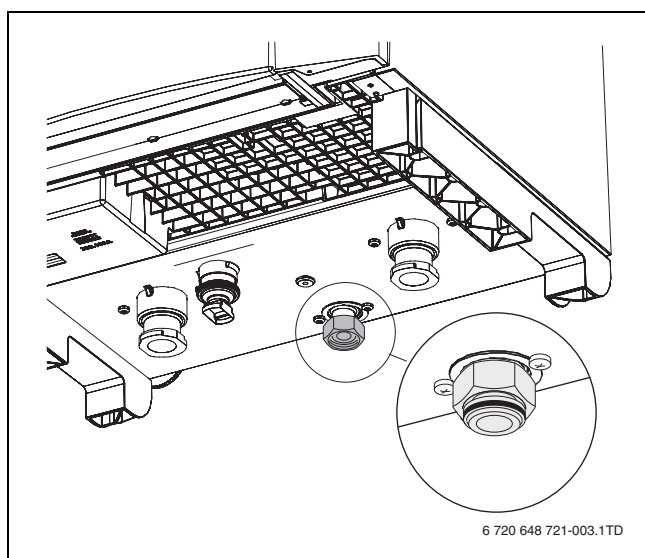

Fig. 3 Rubber seal
- ▶ Make sure that the factory-fitted flat rubber seal is located in the threaded connection (boiler side) (→ fig. 3, detailed picture).